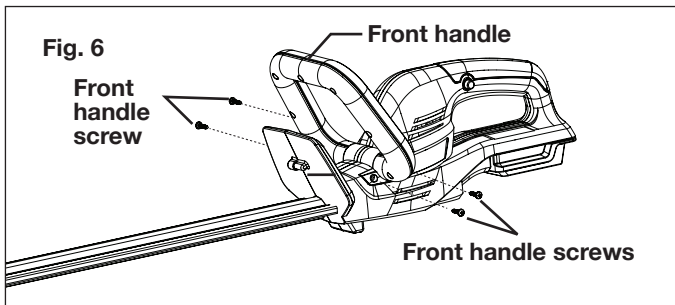

Fig. 6
2. Secure the front handle onto the unit with the 4 front handle screws (Fig. 6). When the screws are fully secured, your hedge trimmer is ready to use.